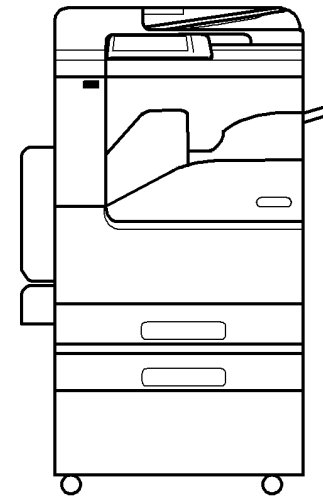

Figure 2 With integrated finisher and 1TM
- Xerox® VersaLink® C7020/C7025/C7030 with integrated finisher and 1TM, Figure 2.